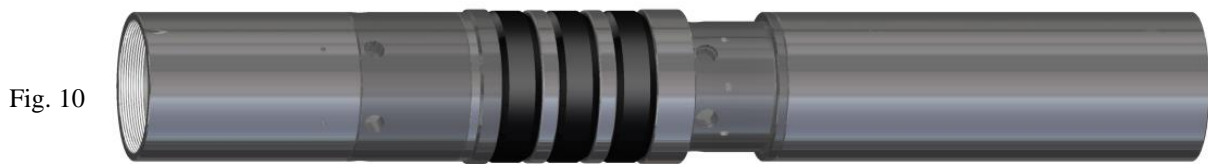

Fig. 10
L-13.2) Install setting chamber assembly onto rubber mandrel (11). Screw rubber retainer (15) onto setting sleeve (27) (Fig. 10).